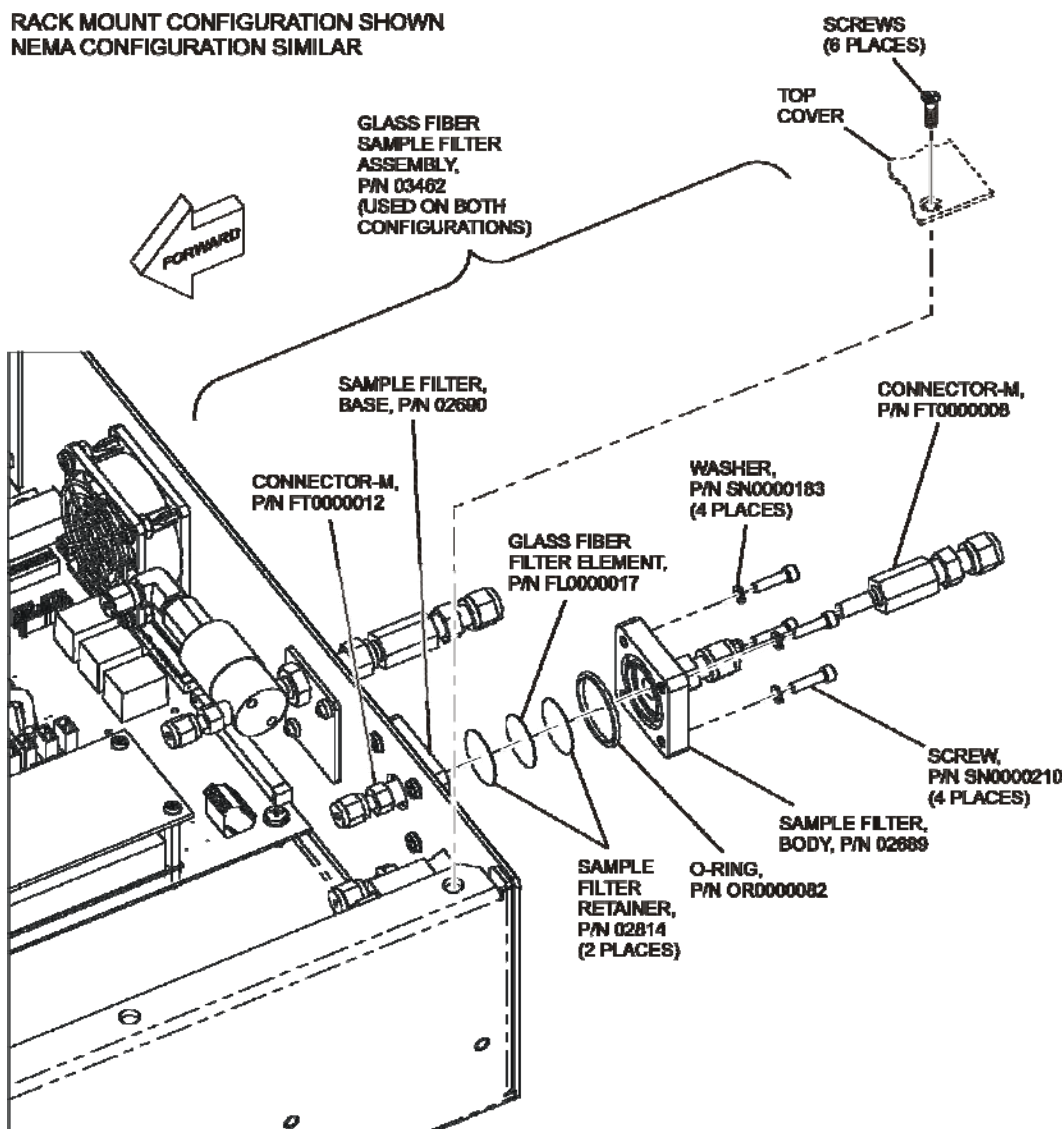

Figure 9-3: Internal Particulate Filter Replacement
5. Loosen the four screws on the sample filter body (see Figure 9-3.)